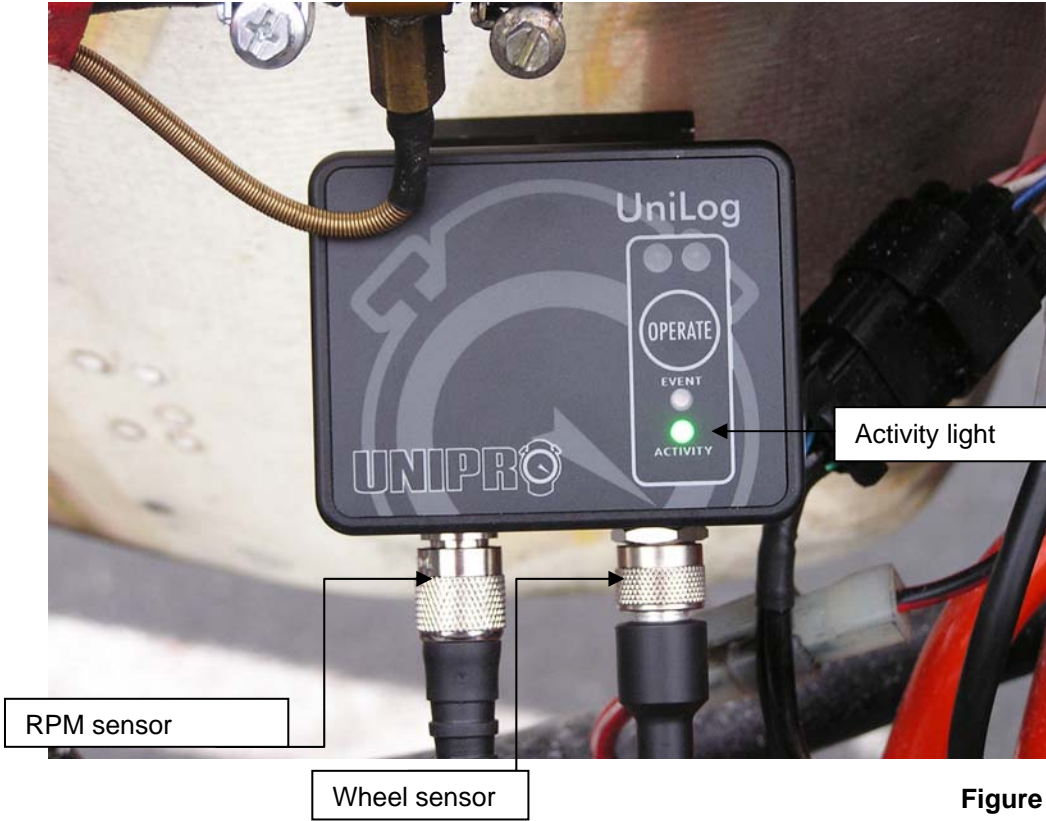

Figure 5
The cable end with the sensor must be placed perpendicular to the magnet with a gap distance of 2-5 mm. See figure 5 for correct connection to the UniLog box.
Mount the RPM sensor on the HT cable with two tie-wraps, and place it in a distance of 5-15 cm from the spark plug socket, as shown in figure 4. Make sure that the RPM sensor has no contact to other cables than the HT cable. See figure 5 for correct connection of the RPM sensor cable to the UniLog box.
- The green activity light (see figure 5) must be flashing with an even frequency (0.5 sec.)